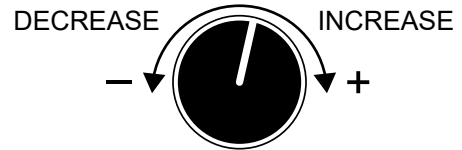

Figure 22. Voltage Regulator
3. Turn the **Voltage Regulator** (Figure 22) **clockwise to increase** voltage output, **counterclockwise to decrease** voltage output. Use the Voltage Regulator whenever fine tuning of the output voltage is required.
3. Turn the **Voltage Regulator** (Figure 22) **clockwise to increase voltage output, counterclockwise to decrease voltage output**. Use the Voltage Regulator whenever fine tuning of the output voltage is required.